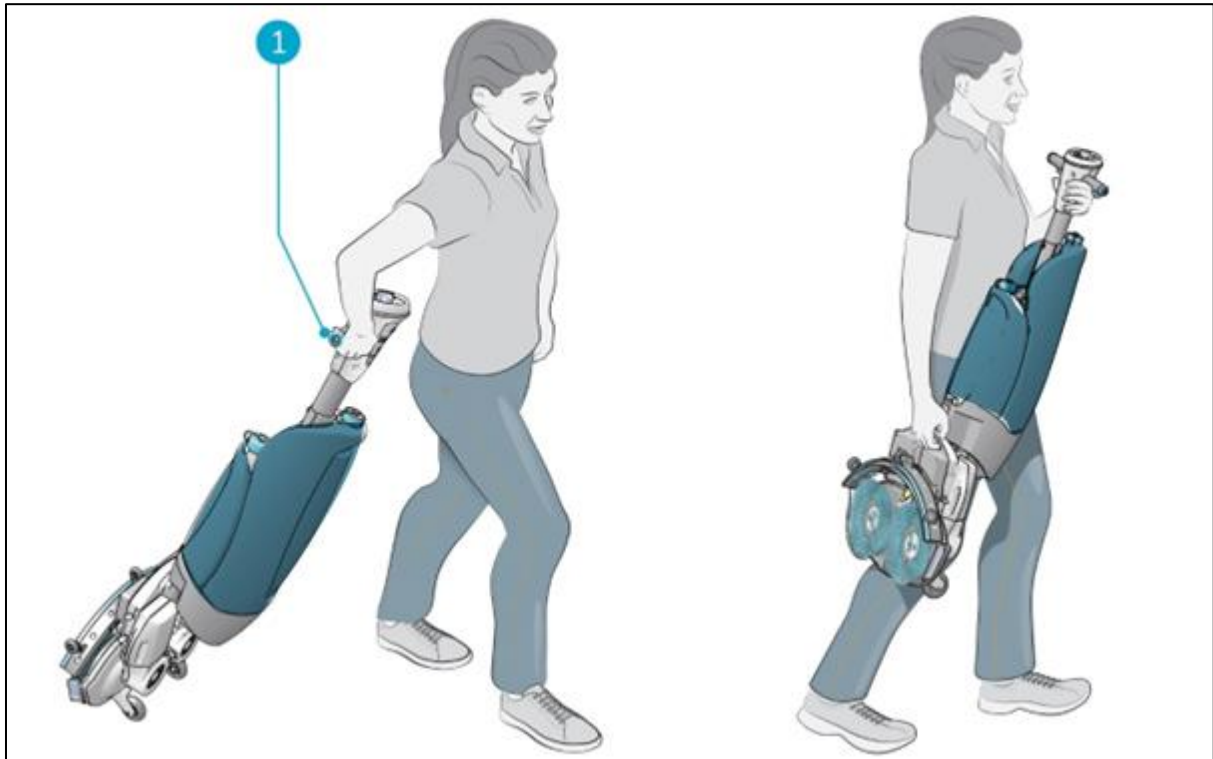

Figure 16
2. Hold the handle with one hand (Figure 16, pos 1).